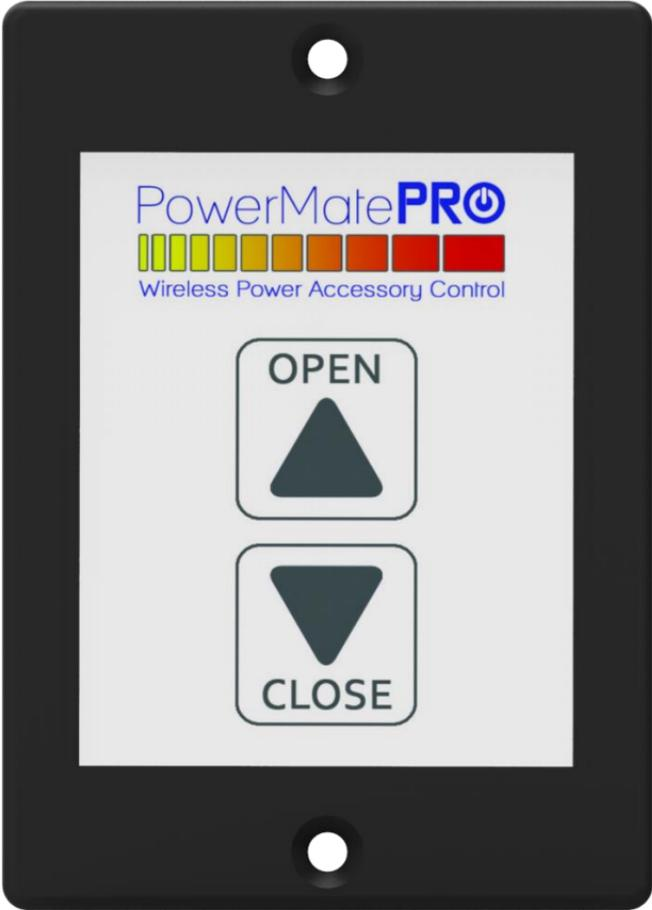

figure 3
- 1)** Press the Open or Close button on the PowerMatePRO (Figure 3) to determine if the powered system being controlled operates backward compared to the button pressed (ie. Opens when the Closed button is pressed or closes when the Open button is pressed). If the powered system operates as it should compared to the button pressed then no further configuration will be needed for this PowerMatePRO and you may skip to step 5. If the powered system operates backward compared to the button pressed proceed with the rest of the steps in this section to configure to reverse the direction.
- 5)** It is recommended that you use the Time Configurators to automatically record the initial Open and Close (extend and retract) times. Start the configuration process by using the Close button on the PowerMatePRO (Figure 3) to fully retract the power system.
seconds) of the full extension during the previous step will now be displayed in the Auto Open Time box. This time may be manually adjusted if necessary by tapping the displayed time and entering a new value. If you accidentally released the Open button too soon or held it beyond the full extension of the power system, you can fully close the power system using the Close button on the PowerMatePRO (Figure 3) and then repeat steps 6-7 to measure and record a new Auto Open Time.
- 11)** Once the Close button has been released the Auto Open/Close configuration options (Figure 9) will again be displayed. The amount of time recorded (in seconds) of the full retraction during the previous step will now be displayed in the Auto Close Time box. This time may be manually adjusted if necessary by tapping the displayed time and entering a new value. If you accidentally released the Close button too soon or held it beyond the full retraction of the power system, you can fully open the power system using the Open button on the PowerMatePRO (Figure 3) and then repeat steps 9-10 to measure and record a new Auto Close Time.